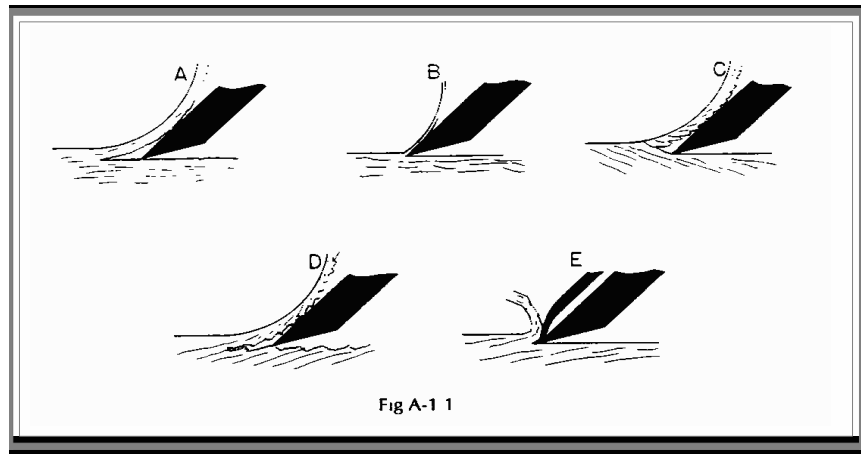

Fig.A-1:1 [\[Full Size\]](#)
A blade cutting wood must move wood aside to make room for its passage. The shaving must be bent and levered out of the way as it slides up the face of the blade. If the cut is deep, the force needed to bend the shaving is greater than that required to separate wood fibers, and a split appears in front of the blade (A in Fig.A-1:1). If the shaving is thin, it bends away to let the blade move forward with very little splitting, and a smoother cut results (B).